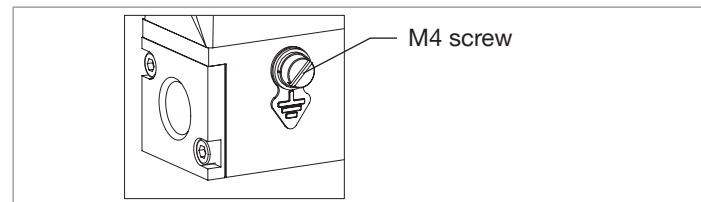

Fig. 23: Location of the M4 screw for the connection of the functional-earth cable
- With a flat screwdriver of size 6.5 mm, loosen the M4 screw. Refer to Fig. 23.